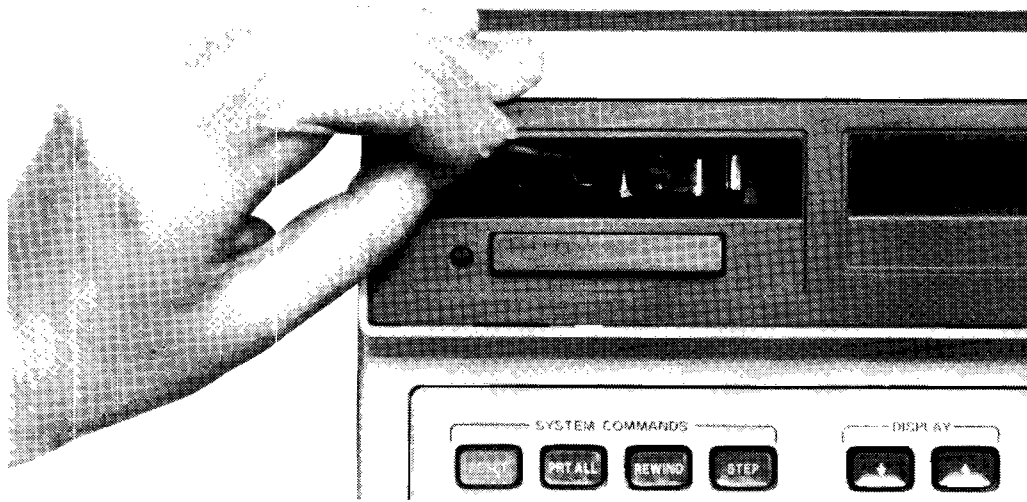

Figure 1-6. Cleaning the Tape Head
2. Clean the tape head with a cotton swab that has been dampened with head cleaning solution (see Figure 1-6). Wipe the top of the tape head a few times with the cotton swab. Remove any other dust that has accumulated in the vicinity of the tape head.